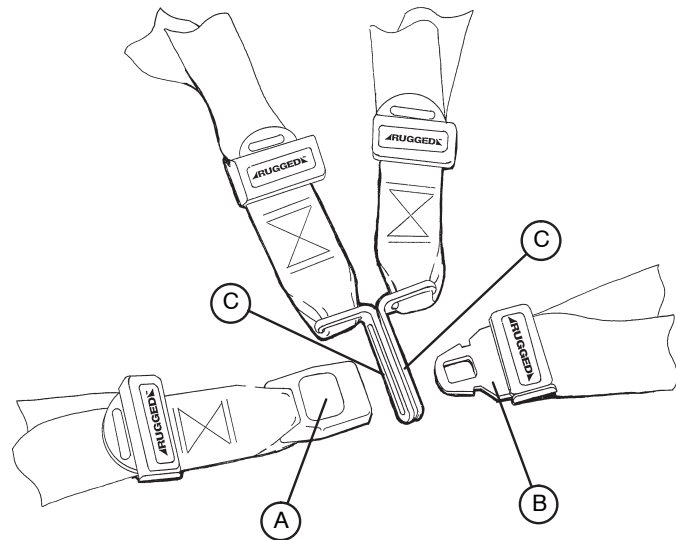

Figure 11 - Buckling the Safety Restraints
To open the restraint, press the red button (A) on the front of the buckle "receiver". This releases the buckle "tang" (B) which can then be pulled out of the receiver (Figure 11).
To close the restraint, push the tang into the receiver until a "click" is heard. When fastening the chest restraint be sure the tang passes through both links (C) on the shoulder strap (Figure 11).